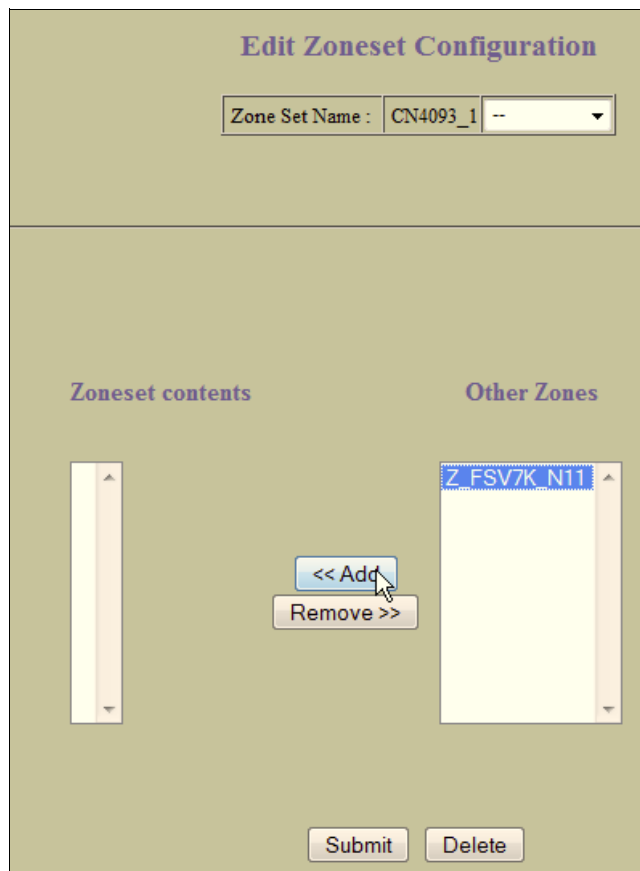

Figure 8-17 Add Zone to a Zoneset
16.A list of created zones is displayed. Highlight the zone you created and then click **Add** to add to the newly defined zoneset. See Figure 8-17.